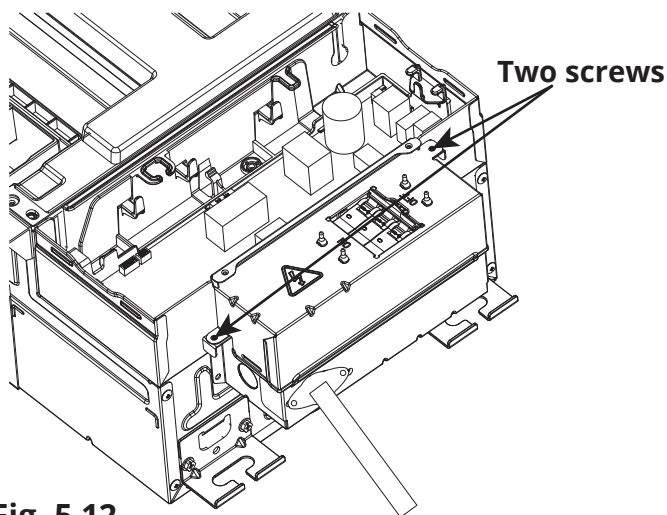

Fig. 5.12
- Reinstall the circuit breaker cover with the two screws you previously removed (See Fig. 5.12).